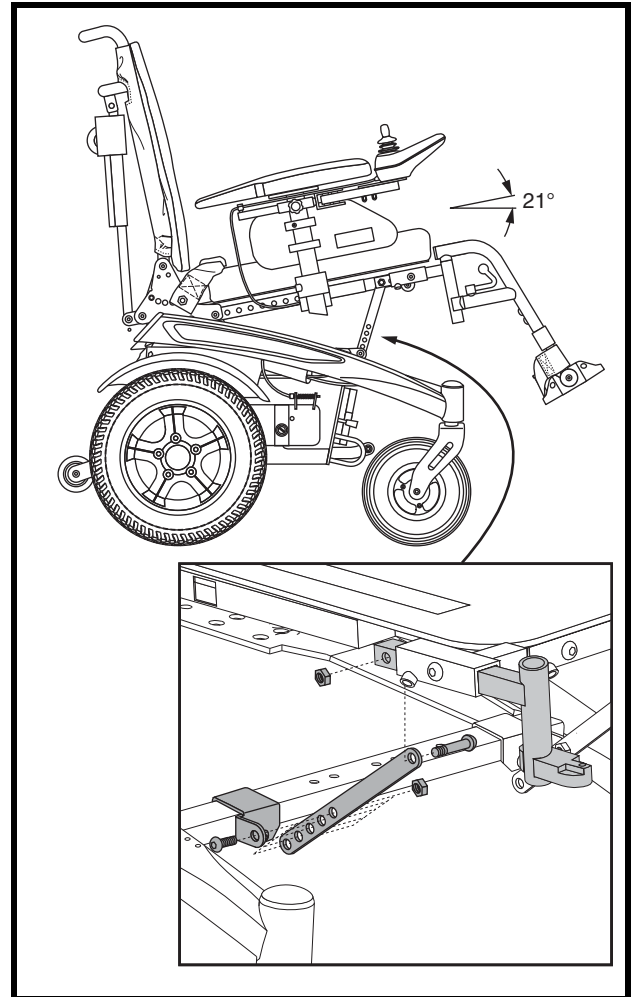

Figure 13. Seat Angle (Dump) Adjustment
2. Remove the seat angle adjustment bolt. **See figure 13.**